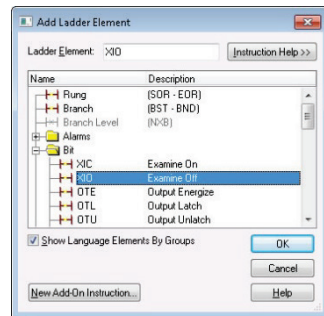

Figure 58: Adding an XIO Element
- Select the “XIO” element in the Bit folder. Refer to Figure 58.